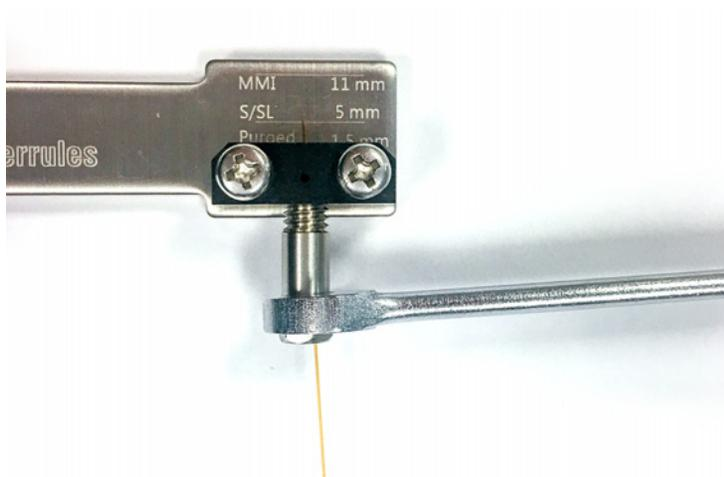

Figure 16. Tighten the column nut
- c Check if the ferrule is gripping the column. If yes, stop. If not, continue to tighten the column nut in small 5- to 15-degree increments. Check after each increment to see if the ferrule is gripping the column. Stop as soon as gripping occurs. See **Figure 16**.